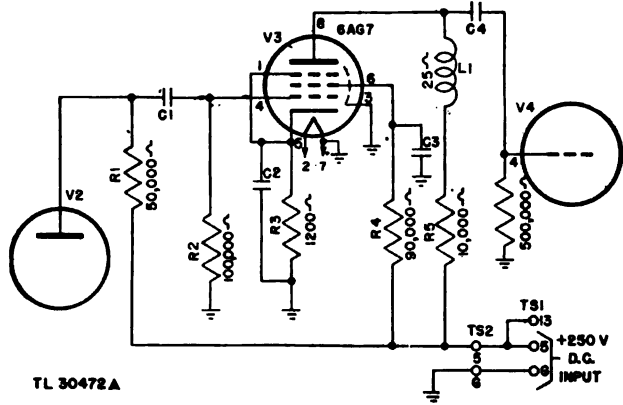

Figure 71. Schematic diagram for voltage analysis.
(3) When a voltmeter is loading a circuit, the effect can always be noted by comparing the voltage reading on two successive ranges. If the voltage readings on the two ranges do not agree, voltmeter loading is excessive. The reading (not the deflection) on the highest range will be greater than on the lowest range. If the voltmeter is loading the circuit heavily, the deflection of the pointer will remain nearly the same when the voltmeter is shifted from one range to another.
(4) The voltage and resistance drawings used in this manual are based on readings taken with an actual meter. The ohms-per-volt sensitivity of the meter which was used is printed on the drawing. The trouble shooter should use a meter having the same ohms-per-volt sensitivity. Because the meter used in testing for the voltage will produce the same amount of loading as the meter used in measuring the voltage, it is unnecessary to consider the effect of loading.
d. PRACTICAL EXAMPLE OF VOLTAGE ANALYSIS. Figure 71 illustrates a typical amplifier stage. The values of the various parts are labeled as well as the input voltages. The normal voltages at the V3 tube socket pins are:
To check the stage shown in figure 71 for an abnormal voltage measurement, measure the voltages between the socket contacts and the chassis.